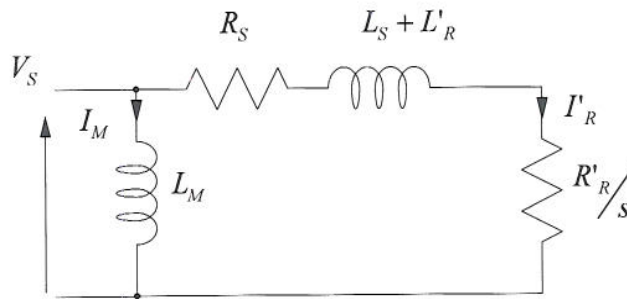

Figure Q3 Approximate equivalent circuit of an induction machine
- b) Figure Q3 shows an approximate equivalent circuit for an induction machine (one in which the magnetising inductance has been moved to the stator terminals). It is to be supplied from an inverter with a DC input voltage of 650 V. The designed level of magnetising flux linkage (in RMS form) is  $\Psi(\text{design}) = 0.70 \text{ Wb}$ .